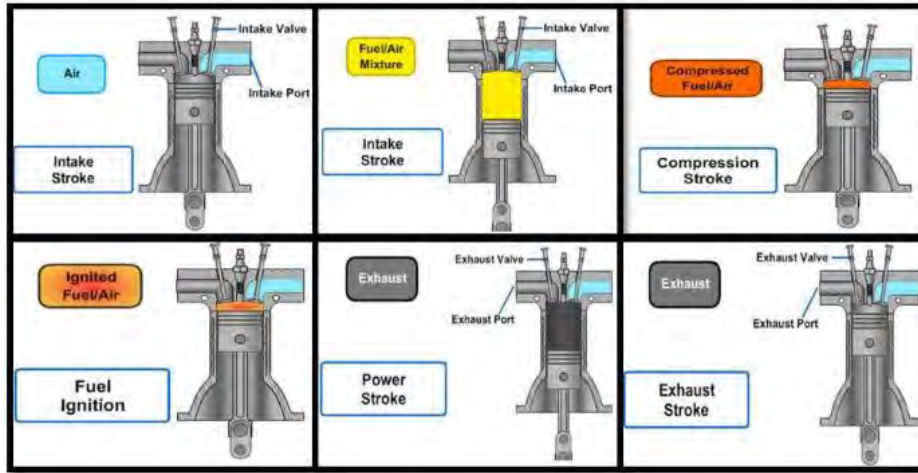

Figure 2-10 - Four-stroke cycle gasoline engine in operation.
- Exhaust Stroke - The exhaust stroke begins when the piston nears the end of the power stroke and the exhaust valve opens. As the piston moves upwards, it pushes the burnt gases out of the combustion chamber through the exhaust port. After the piston reaches top dead center, the exhaust valve closes. The next cycle begins when the intake valve opens. *Figure 2-10* shows the operations of a four-stroke cycle gasoline engine.